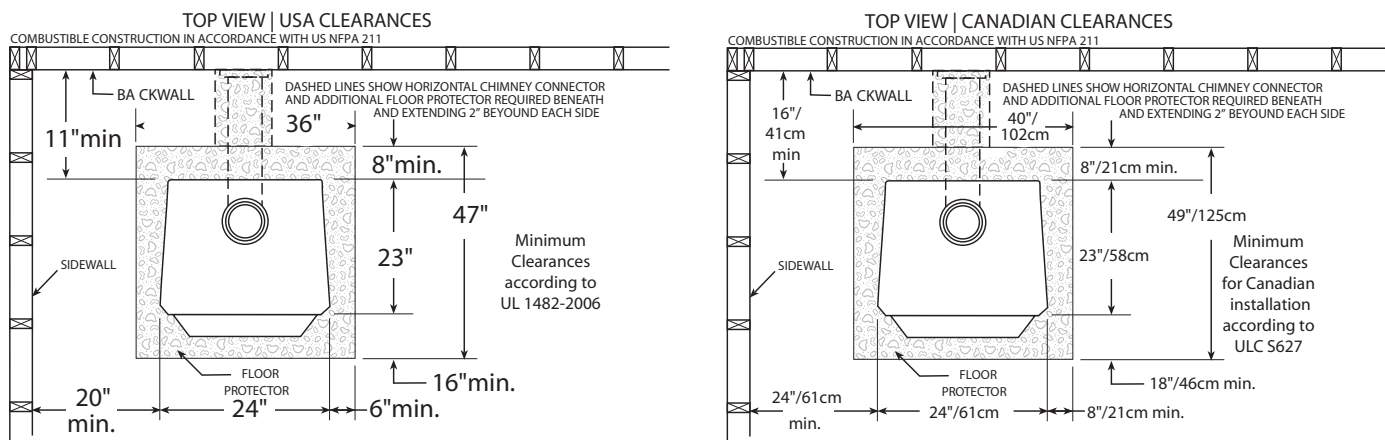

Fig. 10 – TOP VIEW Minimum Clearance Dimensions from Combustible Surfaces
1. The stove must be placed on solid concrete, solid masonry, or when installed on a combustible floor, on an Underwriters Laboratories Listed Type 2 floor protector listed to UL standard UL 1618, such as Hy-C or Imperial Model UL3648BK (US) or UL4049BK (CAN). Floor protector must be 1/2"/13mm minimum thickness (R value = 0.84, see page 23 for calculation formulas) non-combustible material or equivalent. US Requirements: The floor protector must extend at least 16"/41cm beyond the front of the access door, 6"/15.3cm to the sides, 8"/21cm beyond the rear and must extend under and 2"/50mm beyond either side of the stove pipe connector if it is elbowed towards a wall. (See figures 10 & 11 and consult local building codes and fire protection ordinances.) Canadian Requirements: The floor protector must extend at least 18"/46cm beyond the front of the access door, 8"/21cm to the sides, 8"/21cm beyond the rear and must extend under and 2"/50mm beyond either side of the stove pipe if it is elbowed towards a wall. (See figures 10 & 12 and consult local building codes and fire protection ordinances.)
4. After observing the clearances to combustible materials (figures 10–12), locate your floor protector accordingly (figure 10) and care-fully place the stove in your selected location. Install connector pipe, elbows, and thimble as required, utilizing either a recently cleaned and inspected 6"/152mm lined masonry chimney or a 6"/152mm i.d. UL 103 HT/ ULC-S629 listed manufactured chimney.
5. Use round 6"/152mm dia., minimum 24 MSG black or 26 MSG blue steel stove pipe to connect the stove to the chimney. Do not use galvanized stove pipe. Secure connector pipe to the flue collar with three (3) sheet metal screws. Use three screws in each stove pipe and/or elbow joint to firmly hold the pipe sections together. **DO NOT** connect this stove to any air distribution or duct system.
6. Recheck clearances from the stove, connector stove pipe, and corner clearances using the illustrations in figures 10–12 and your local building codes or fire protection ordinances.